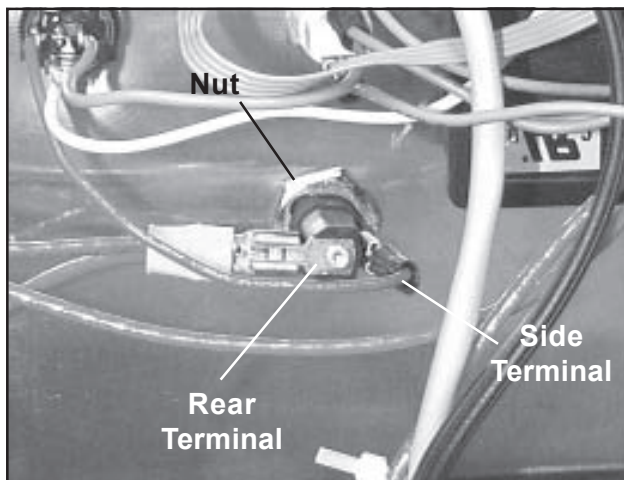

Figure 121. Inside View of Fuse Holder
5. Dis-connect both wires from the fuse holder. **Note:** There are two terminals on the fuse holder: one on the side and one on the rear (Figure 121).
2. Secure the fuse holder to the door with the nut removed earlier (Figure 121).